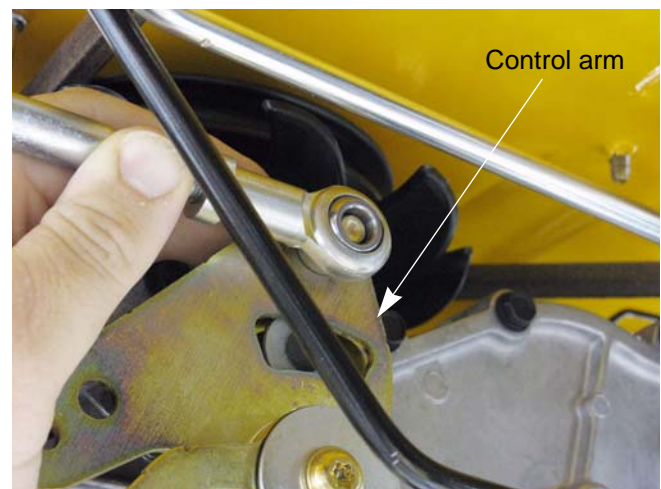

Figure 5.8
15. Thread the ball joints up or down the length of the control links to align them with the holes in the transmission control arms. See Figure 5.8.